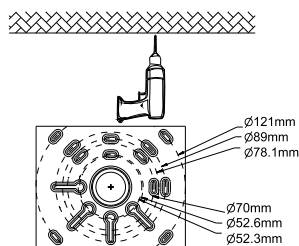

Figure 2-3
- 3.Drill the holes on the ceiling accordingly to fit the plate;Figure 2-3